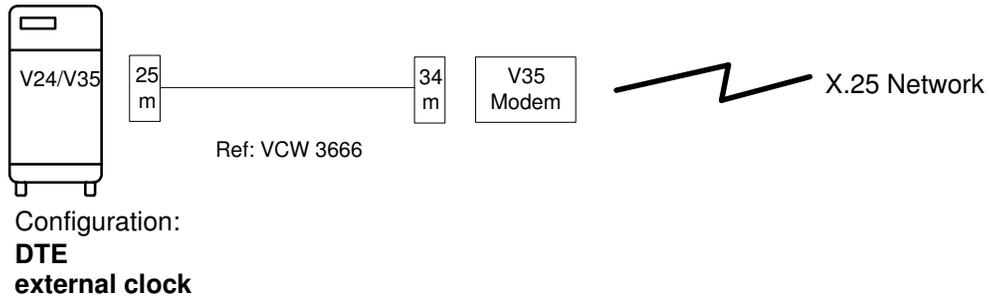

Figure 49. V24/V35 Connection to a Public Network (ISO2593)
- Connection to a Public Network (ISO2593) except in France, see figure 49,